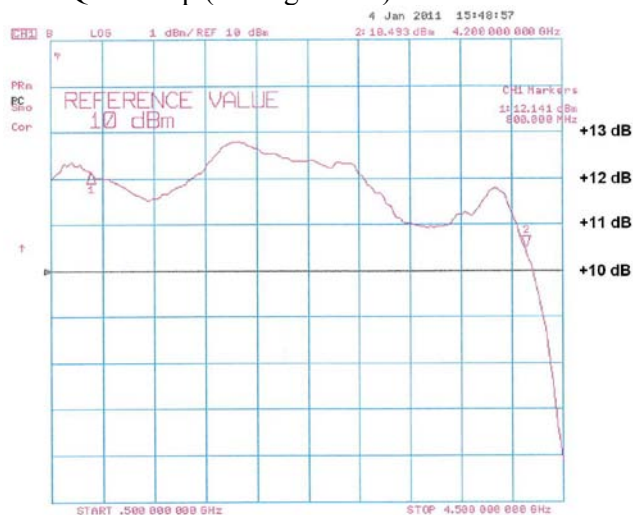

Figure 4-9. Typical Quad Amp Response
- If the response of the output stages (i.e., A4 Two-Way Splitter input to front panel RF output) is normal, check the response of the A3 Quad Amp (see Figure 4-9).